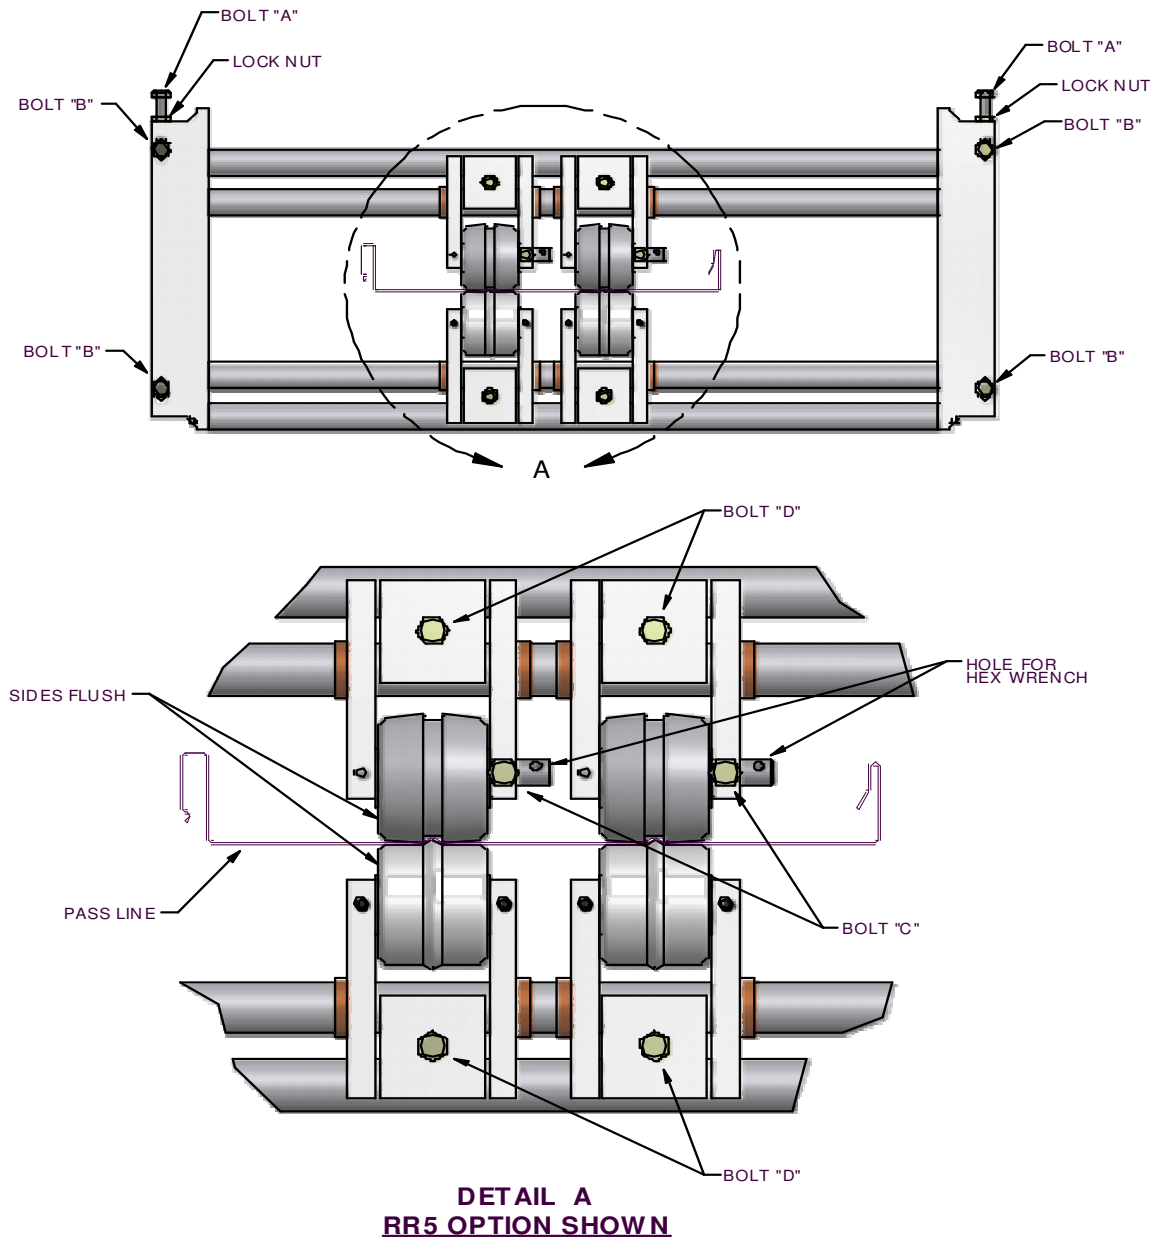

Figure 34: Bead Roller Width Change
9. Loosen the slide lock bolts on the top and bottom bead assemblies (Figure 34) and slide each bottom and top roll assembly left or right to center them on the 4" and 8" marks on the panel.
12. To set or change the gap between top and bottom beads, loosen the "C" bolt on both top rollers (Figure 34).